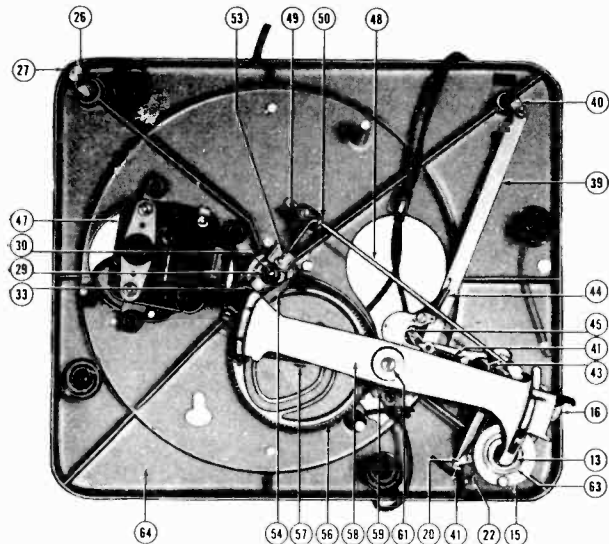
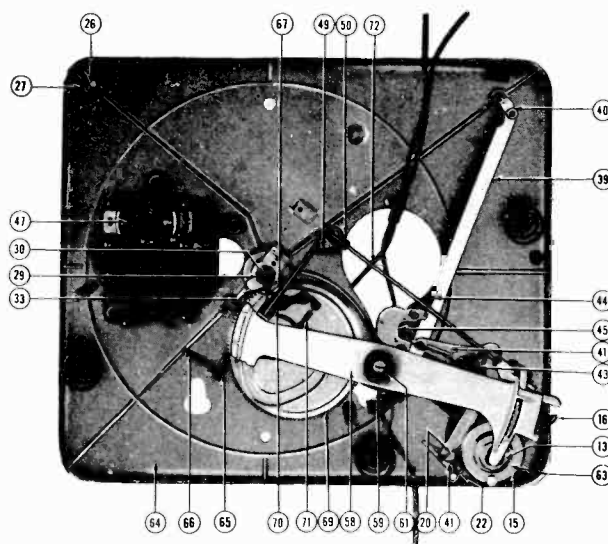
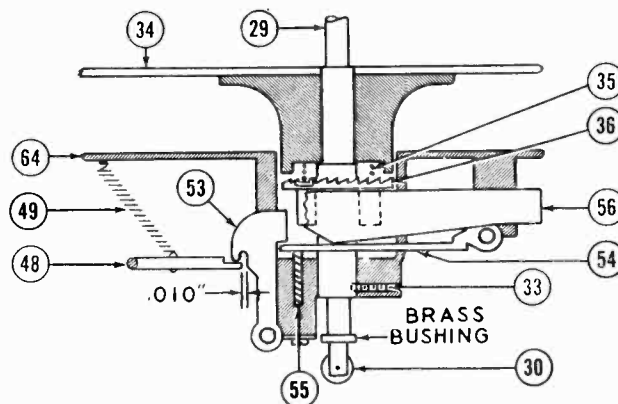

Fig. 4
Fig. 5
Fig. 12
NOTE: This Pinion Spring (35) must be located below the Pinion Gear (36) on record changers of the type shown in Fig. 5 so that it holds the gear in mesh with the turntable hub at all times. Only changers of the type shown in Fig. 4 have the spring located above the gear.
With record changer shown in Fig. 4, continuing to turn the Control Button (37) to the "REJ." position causes a leg of the Control Lever (41) to move further hitting and tripping the Ratchet and Rod (48). The action of the rod releases the Catch (53) allowing the Latch Spring (55) to push the Latch (54) forcing up the Pinion Gear (36). This gear now engages rotating Turntable (34) and transmits this motion to Main Cam (56).
The record changer shown in Fig. 5 uses a different type trip mechanism which operates as follows: Continuing to turn the Control Button (37) to the "REJ." position causes a leg of Control Lever (41) to move further hitting the Ratchet and Rod (72). The action of the rod releases the Clutch Pawl (70) allowing the Clutch Pawl Spring (71) to pull it into engagement with the teeth on revolving Pinion Gear (35). This turns the Main Cam Assembly (69) past the open space in its periphery and starts the change cycle.
moves along a heart shaped groove, in the Main Cam (55), thus, moving the arm forward, then back again to the starting position. Inclined planes on either end of Lift Arm (58) effects the selection of record from stack, lifting Pick-up Arm (1) from rest position and setting needle on edge of record. Upon completion of its revolution, the lower rim of the Main Cam (56) (See Fig. 4) pushes down Latch (54) allowing Catch (53) to re-engage it. This allows Pinion Spring (35) to push Pinion Gear (36) away from Turntable (34) disengaging change mechanism during playing cycle (See Fig. 12).
The changer mechanism shown in Fig. 5 completes its cycle differently than that just described. Near completion of the revolution of the Main Cam Assembly (69) the arm of the Ratchet and Rod (72) engages the Clutch Pawl (70) pulling it away from Pinion Gear (36). At the same time Cam Stop Pawl (65) fits between two locating pins on the upper side of the Main Cam Assembly (69) holding it so that its open periphery is adjacent to the Pinion Gear (36).
1. Record Changer may have been stopped during change cycle. Merely rotate Turntable (34) **one** turn **clockwise** by hand and turn Control Button (37) on again.
2. Idler Wheel (46) not engaging rim of Turntable (34). Check for any binding action of plate or lever on which Idler Wheel (46) is mounted to motor.
3. Grease on Idler Wheel (46) or rim of Turntable (34). Clean with carbon tetrachloride.
4. Turntable bearing may be too tight or binding. Remove Turntable (34), clean and relubricate bearing with light oil.
5. Turn Control Button (37) to "REJ." position. Holding it in this position, check to see if a leg of Control Lever (41) is hitting and tripping the Ratchet and Rod (48) or (72) sufficiently to trip cycling mechanism. Check for loose Trip Rod Bearing (51). Also check to see that trip rod is not loose in ratchet.
6. If Ratchet and Rod (48), shown in Fig. 4, is operating correctly, check the following:
- a. Catch (53) not releasing Latch (54). Polish any burrs on contacting surfaces with a fine emery or crocus cloth. Lubricate with light oil. (See Fig. 12.)
- b. Latch (54) being released properly but not lifting Pinion Gear (36) to engage teeth on hub of Turntable (34). Latch (54) may be binding with center post bearing clean and remove burrs, or Latch Spring (55) which fits under Latch (54) may be defective or missing.
7. If the record changer incorporates the trip mechanism shown in Figure 5 and the Ratchet and Rod (72) is operating correctly, check to determine that the Clutch Pawl (70) moves forward and engages the teeth on the Pinion Gear (36). A defective Pawl Spring (71) or binding between Clutch Pawl (70) and the Cam would prevent this action. If binding occurs, clean out foreign matter and check for freedom but do not oil.
2. Hinge Bearing (10) out of relation with Pick-up Arm Locator (12). This may be adjusted as follows:
- a. Place the Pick-up Arm (1) on the rest post and turn Control Knob (37) to "OFF" position.
- b. Control Lever (41) should be engaging leg on Set Down Locator (20) as shown in Figs. 4 and 8. If improperly set, position Set Down Locator (20) correctly.
3. Not enough space between end of Ratchet and Rod (48) and Catch (53) to allow the former to swing into its locking position. There should be about .010" space between the above parts when the raised portion of the lower rim of Main Cam (56) has depressed Latch (54) as far as it will go (See Fig. 12). Move or bend Trip Rod Bearing (50) to provide this space.
4. Binding of Catch (53) on its hinge pin. Also be sure that slot into which Catch (53) fits is free from burrs.
5. Ratchet and Rod (48) or (72) should have perfect freedom of movement in its bearings.
6. Trip Rod Spring (49) has insufficient tension. After checking the above five items, making sure there is no binding and space requirements are sufficient, adjust spring either by taking off a few coils or by replacing.